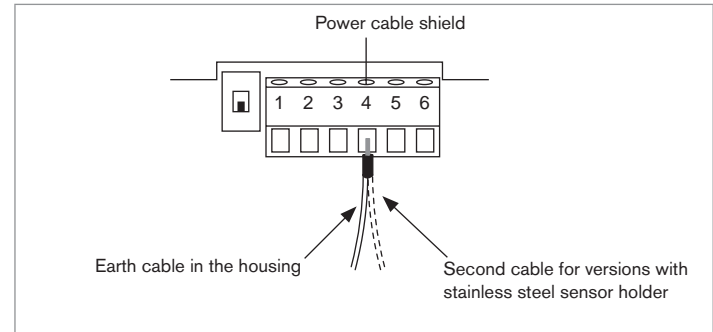

Fig. 13 : Earth connection terminal box
- Inside the housing, connect the power cable shield to connector terminal no. 4 on the electronic board (Fig. 13). On versions with a stainless steel sensor, a second cable comes from the sensor.